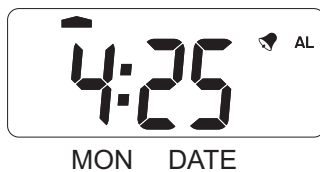

Fig. 3
2. Depress and hold A to display MONTH/DATE, as shown in Fig. 3. (Display will revert to normal HOUR/MIN./SEC. display if A is no longer depressed.) As long as A is held and MONTH/DATE is displayed, depressing B will toggle the display format to DATE/MONTH, or vice versa, as Fig. 4.